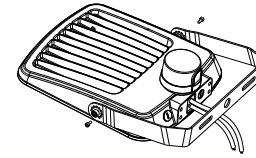

Figure 2
Step 2: Install two small screws. (Figure 2)